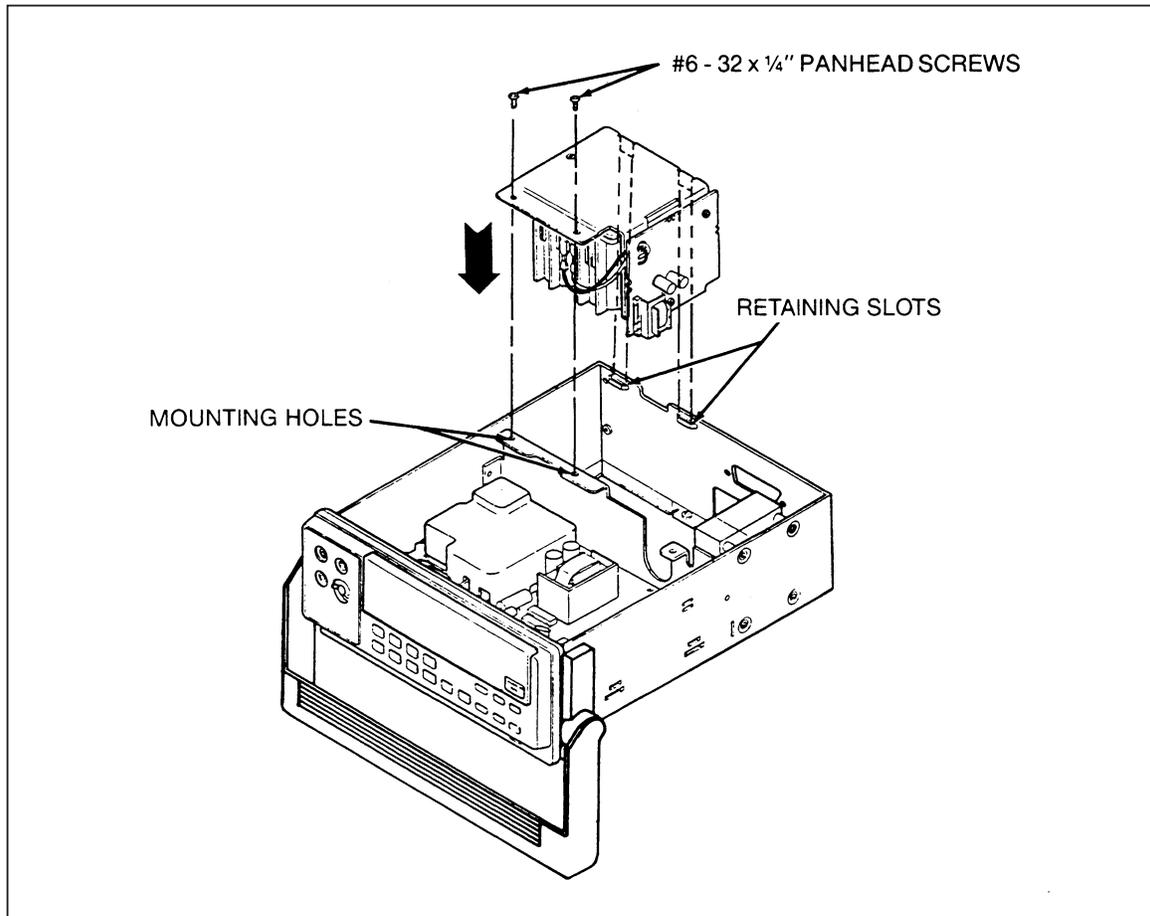

Figure 7-3. Installing the Battery Kit
3. Locate the flat white battery pack option cable connector at the Main PCA (see Figure 7-3.) Use needle nose pliers to detach this connection; alternately pull up on each end of this connector.
5. Attach the flat, white connecting cable at the Battery Pack Option circuit board (see Figure 7-3). The single blue line of the cable should be to the rear of the meter. Align the plastic socket on the cable end, then seat it securely in place.